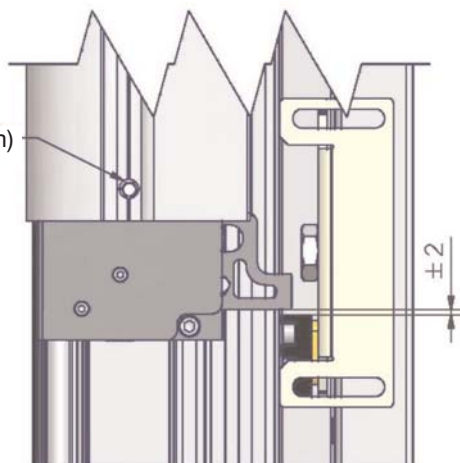

Fig. 26
- Slide the electronic lock until the bar is near the limit block (Fig.26) (distance ~2 mm.) and tighten the screws.
- Drill a hole (ø 9mm) in the automatism cover near the release rod for future key insertion (Fig. 26).